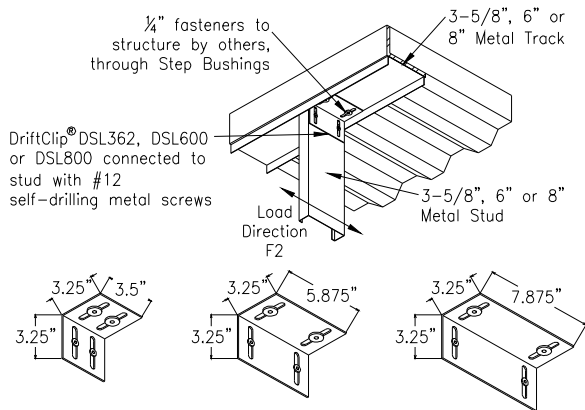

Figure 3 – DriftClip® DSL362/400, DSL600 and DSL800
3.1.4 DriftClip® DSL: DriftClip® DSL362/400, 600 and 800 are L-shaped angles that connect $3\frac{5}{8}$ - or 4-, 6- and 8-inch-deep (92 or 102, 152, and 203 mm) exterior curtain wall steel studs, respectively, at head of wall to the building's structural frame while allowing for a maximum of 2 inches (51 mm) of vertical, and horizontal movement between exterior wall elements and the primary structure. The minimum base-metal thickness of the clips is 0.0966 inch (2.5 mm). The two legs of the DriftClip® DSL362/400, 600 and 800 connectors are equal in length, and each has two or three slots perpendicular to the heel of the angle, each $\frac{3}{8}$ inch (9.5 mm) wide by $2\frac{3}{8}$ inches (60 mm) long. The leg which is fastened to the curtain wall stud has bushings designed for No. 12-14 by 1-inch self-drilling/self-tapping steel screws installed in the center of each slot. The other leg, which is fastened to the structure, has bushings designed for $\frac{1}{4}$ -inch-diameter (6.4 mm) fasteners installed in the centers of the slots. Refer to Figure 3 for overall dimensions of each DriftClip® DSL connector and a typical installation detail.